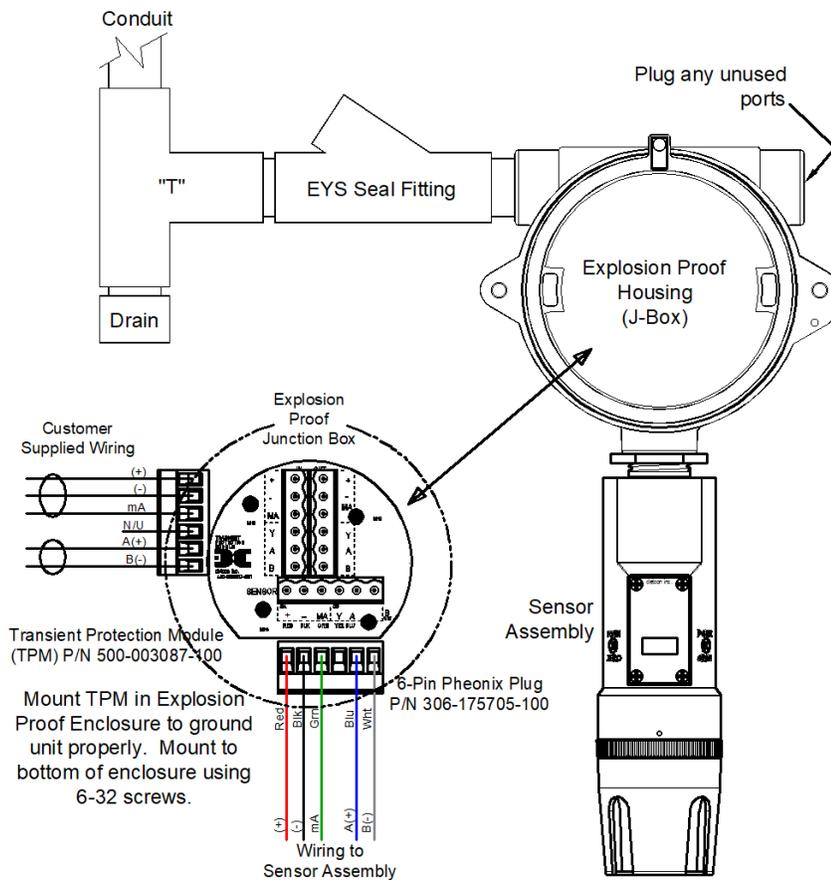
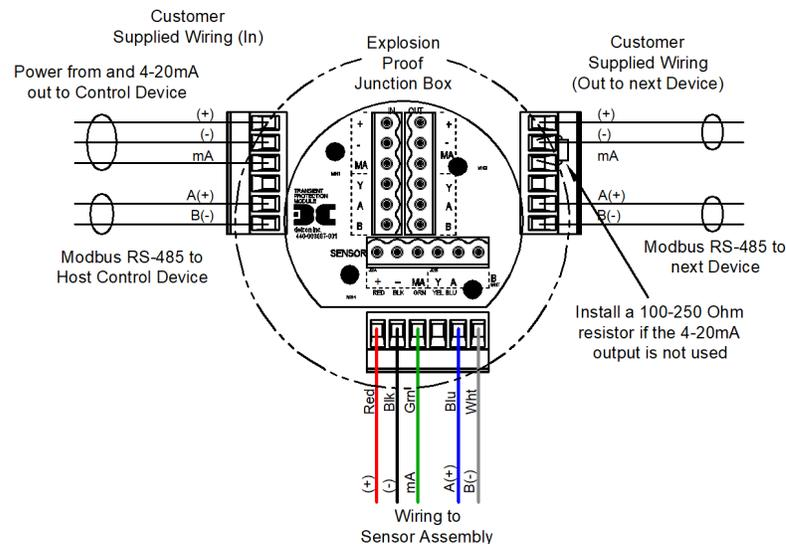

Figure 46 Typical Installation
Figure 47 Sensor Wire Connections
NOTE: In all installations the gas sensor should point straight down (refer to Figure 46). Improper sensor orientation may result in false readings and permanent sensor damage.
Figure 46 below), but any appropriately rated enclosure with a downward facing ¾” Female NPT connection will suffice. (See section 4 for dimensions.)
Proper electrical installation of the gas sensor is critical for conformance to Electrical Codes and to avoid damage due to water leakage. Refer to Figure 46 and Figure 47 for proper electrical installation.
NOTE: If a conduit run exits the secondary port, repeat the installation technique shown in Figure 46.
In Figure 46, the drain allows H₂O condensation inside the conduit run to safely drain away from the sensor assembly. The electrical seal fitting is required to meet the National Electrical Code per NEC Article 500-3d (or Canadian Electrical Code Handbook Part 1 Section 18-154). Requirements for locations of electrical seals are covered under NEC Article 501-5. Electrical seals also act as a secondary seal to prevent water from entering the wiring terminal enclosure. However, they are not designed to provide an absolute watertight seal, especially when used in the vertical orientation.
NOTE: For products utilizing the aluminum junction box option, the conduit seal shall be placed at the entry to the junction box (see Figure 46 as an example). For products utilizing the stainless steel junction box option, the conduit seal shall be placed within 18" of the enclosure. Crouse Hinds type EYS2, EYD2 or equivalent are suitable for this purpose.
CAUTION: Do not apply System power to the sensor until all wiring is properly terminated. Refer to Section 8.2.6 Figure 47.
- Observing correct polarity, terminate the 3-conductor 4-20mA field wiring (+, -, and mA) to the sensor assembly wiring in accordance with the detail shown in Figure 47. If the 4-20mA output is not used, the green wire from the sensor must be connected to the (-) terminal on the Transient Protection Module.
- If applicable, terminate the RS-485 serial wiring as shown in Figure 47. Use the second plug (Out) as termination point on the customer side to facilitate a continuous RS-485 serial loop